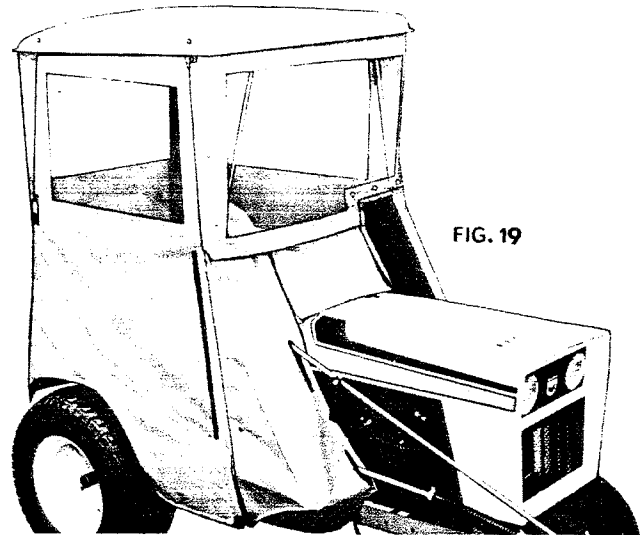

FIG. 19
2. If your tractor has a blower or blade, it will be necessary to disconnect lift arm connecting link before installing vinyl. Snow blade control rod must be disconnected from the stand-off bracket before installing the vinyl and then re-connected to the stand-off bracket in the fashion shown in Fig. 19.